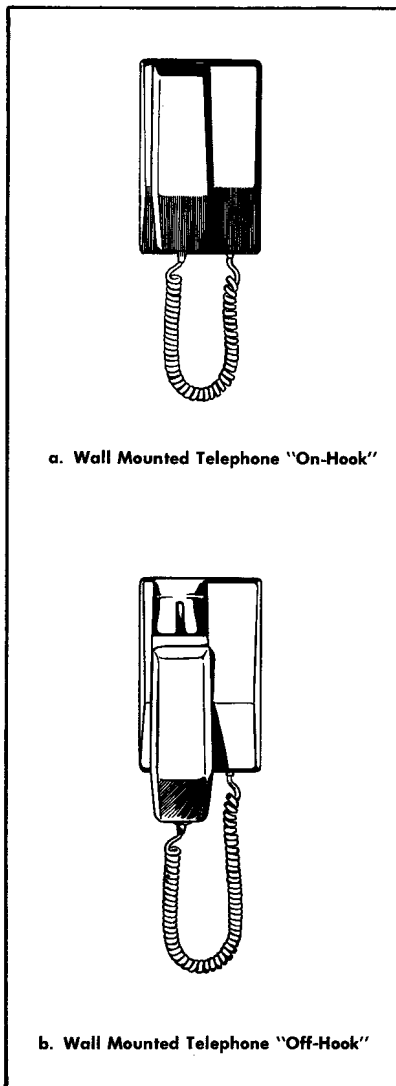

FIGURE 12.
4.02 Wall Mounted (Figure 12):